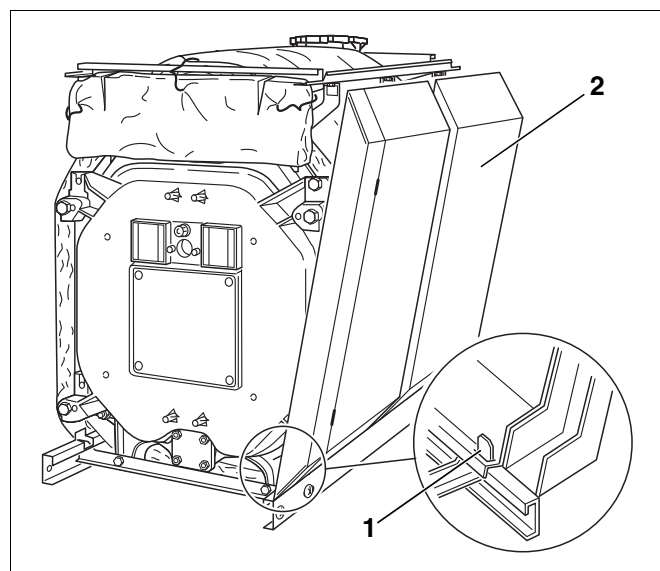

Fig. 50 Attaching the side panel sections
- ▶ Attach the front side panels (Fig. 50, [2]) on the bottom left and right to the lugs in the base rails that have been bent upwards (Fig. 50, [1]) then push up over the folded edge of the longitudinal rails.